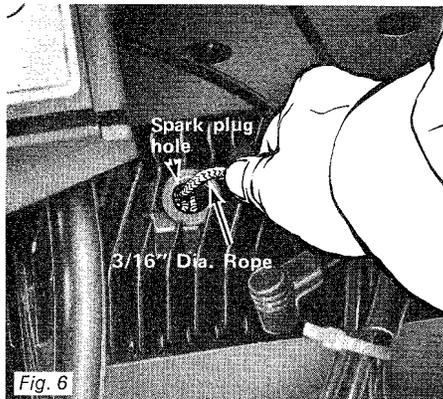
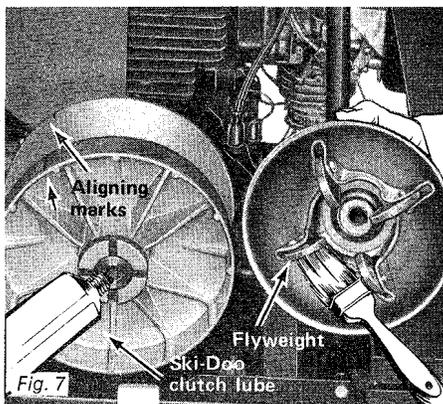

Fig. 6
Fig. 7
- Accede by the spark plug hole and pack the same cylinder with  $\frac{3}{16}$ " dia. rope. (See Fig. 6).
4. Apply a light coat of Ski-Doo\* clutch lube to the four (4) flyweights of the centrifugal governor.
5. Making sure that the aligning mark on inner pulley half coincides with the aligning mark of the outer pulley half, pack inside of pulley shaft with Ski-Doo\* clutch lube. (See Fig. 7).